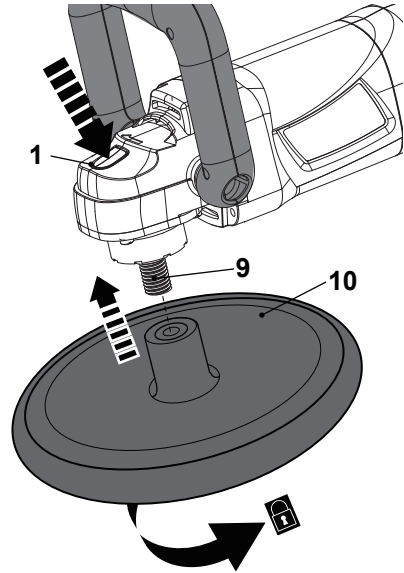

Fig. 2
- > Screw the backing disc (10) onto the spindle (9) (Fig. 2).
- > Press the spindle lock button (1) and tighten the backing disc (10) onto the spindle (9) (Fig. 2). While turning, the spindle (9) will lock in place to tighten the backing disc (10).